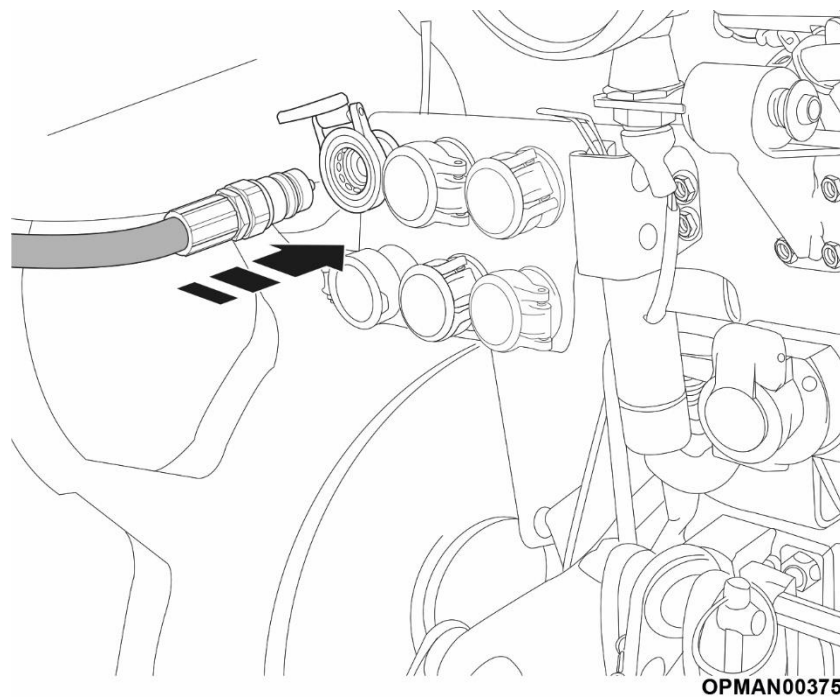

Figure 7
- 3.2.2.8 If the machine is provided with hydraulic side-shift, connect the two hydraulic hoses of the mower to the hydraulic services on the tractor (Figure 7).